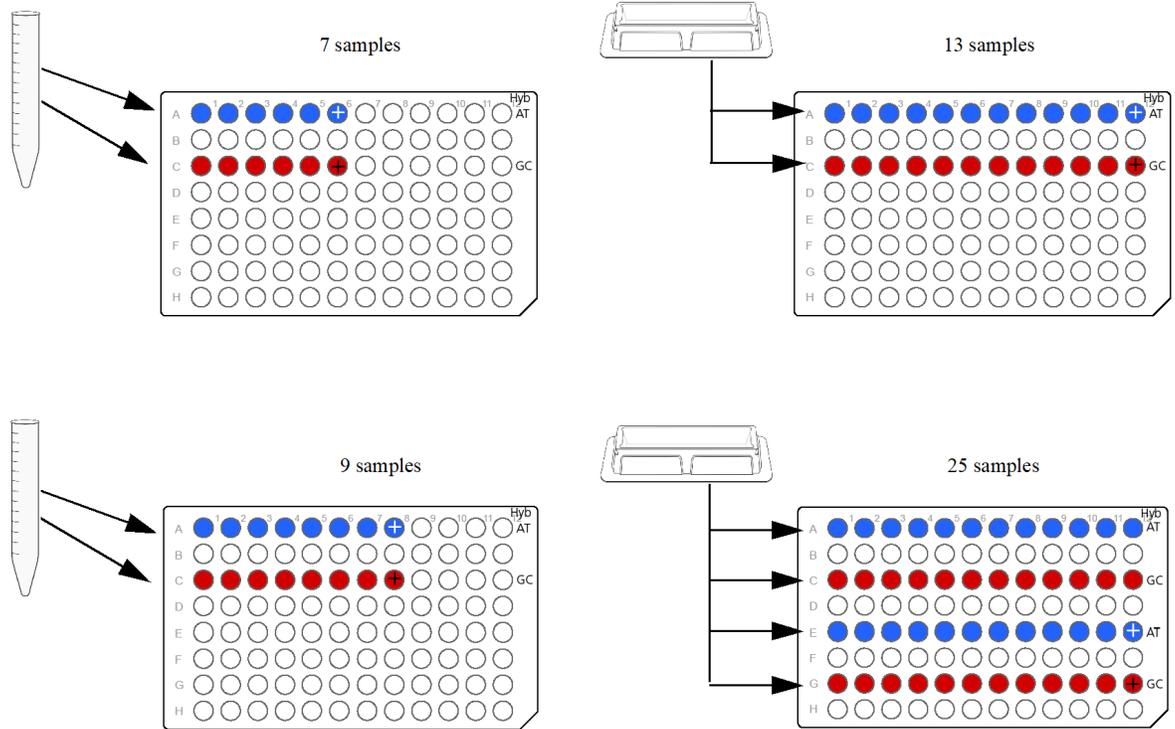

Figure 28 Adding the Hybridization Master Mix to the empty Hyb Plate.
- a. Use a single channel P200 to add 148.0 µL of the Hybridization Master Mix to each empty sample well of the **Hyb Plate**. (Figure 28.)
- c. Use a multichannel P200 pipette to add 148.0 µL of the Hybridization Master Mix to each empty sample well of the **Hyb Plate**. (Figure 28.)